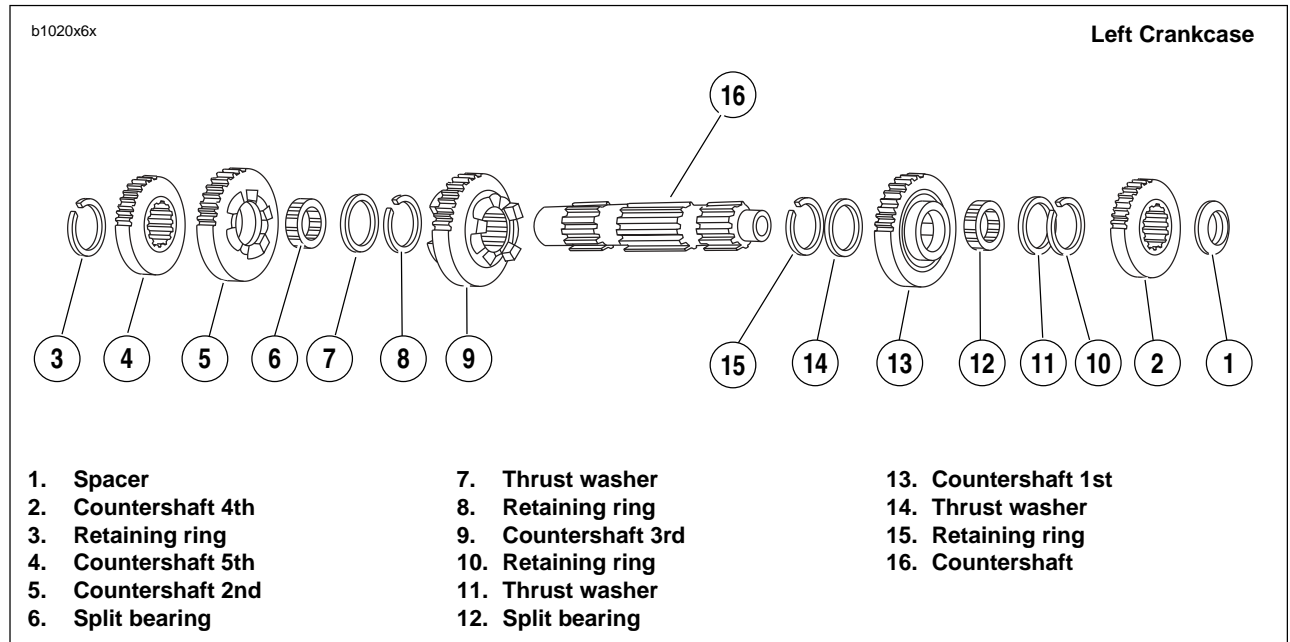

Figure 6-64. Transmission Countershaft Assembly Once Removed from Left Crankcase/Disassembly
1. See Figure 6-64. Remove spacer (1) and countershaft 4th gear (2) from the end of the of the countershaft with internal threads.
2. Using RETAINING RING PLIERS (Part No. J-5586), remove and discard retaining ring (3) next to countershaft 5th gear (4).
- a. Slide countershaft 5th (4), and countershaft 2nd (5) off end of countershaft.
- b. Remove split bearing (6) that was under countershaft 2nd gear (5) and thrust washer (7).
- c. Remove retaining ring (8) on the countershaft and slide countershaft 3rd gear (9) off free end of countershaft.
3. Expand retaining ring (10) located next to countershaft 1st gear (11). Remove retaining ring (10) and thrust washer (11).
- a. Slide countershaft 1st gear (13) off end of shaft.
- b. Remove split bearing (12).
4. Remove thrust washer (14). Expand remaining retaining ring (15) and slide off countershaft.